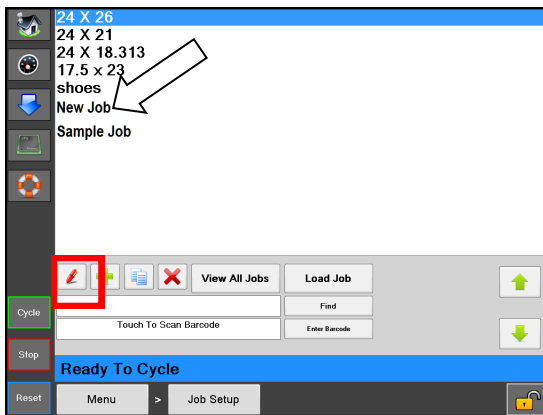

Figure 5-3A. Editing Job.
2. From the Job Setup Screen, highlight the job to be edited and press the Red Pencil button. Figure 5-3A.